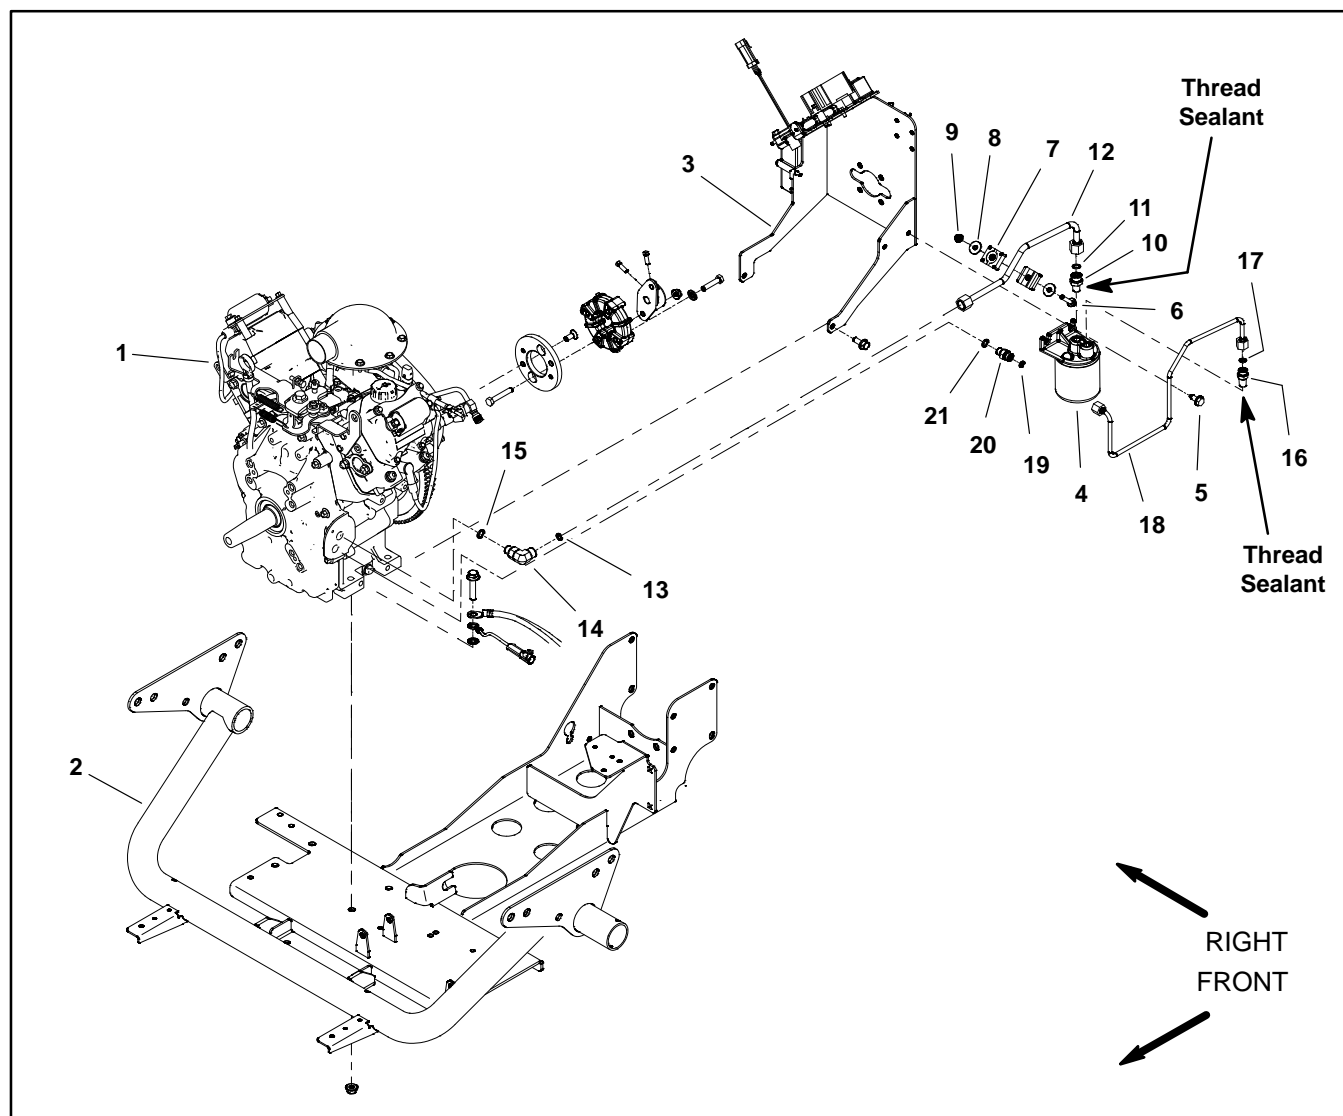

Figure 19
Removal (Fig. 19)
5. Remove oil filter adapter components as needed using Figures 19 and 20 as guides.
Installation (Fig. 19)
1. Install removed oil filter adapter components using Figures 19 and 20 as guides. If hydraulic fittings were removed from oil filter adapter, apply thread sealant to threads of fittings before installing them into adapter.